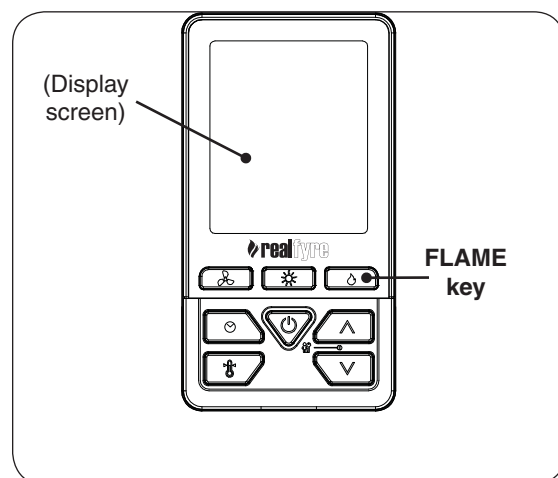
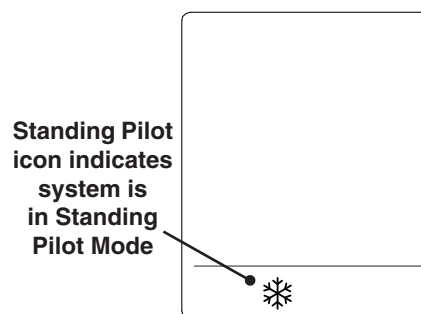

Fig. 29-3 Remote transmitter detail
Fig. 29-4 Standing Pilot Mode detail
2. Locate the remote transmitter and press the UP or DOWN key to wake up the remote. Then press (and hold) the **FLAME** key for 6 seconds. The Standing Pilot icon will display once activated (bottom of screen). See Fig. 29-3 and Fig. 29-4. The system will beep and the pilot ignition sequence will begin.